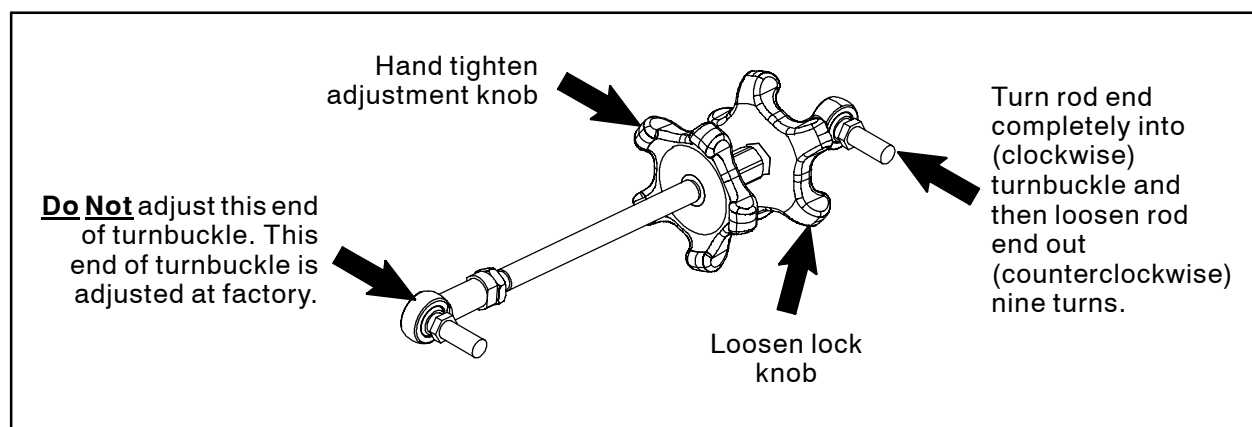

FIG. 1
2. Adjust the new turnbuckle (1). Turn the rod end located closest to the adjustment knobs into (clockwise) the turnbuckle and then turn the rod end nine turns out (counterclockwise) from the turnbuckle. Refer to Fig. 1.
3. Loosen the turnbuckle lock knob and then hand tighten the adjustment knob completely in. Refer to Fig. 1.